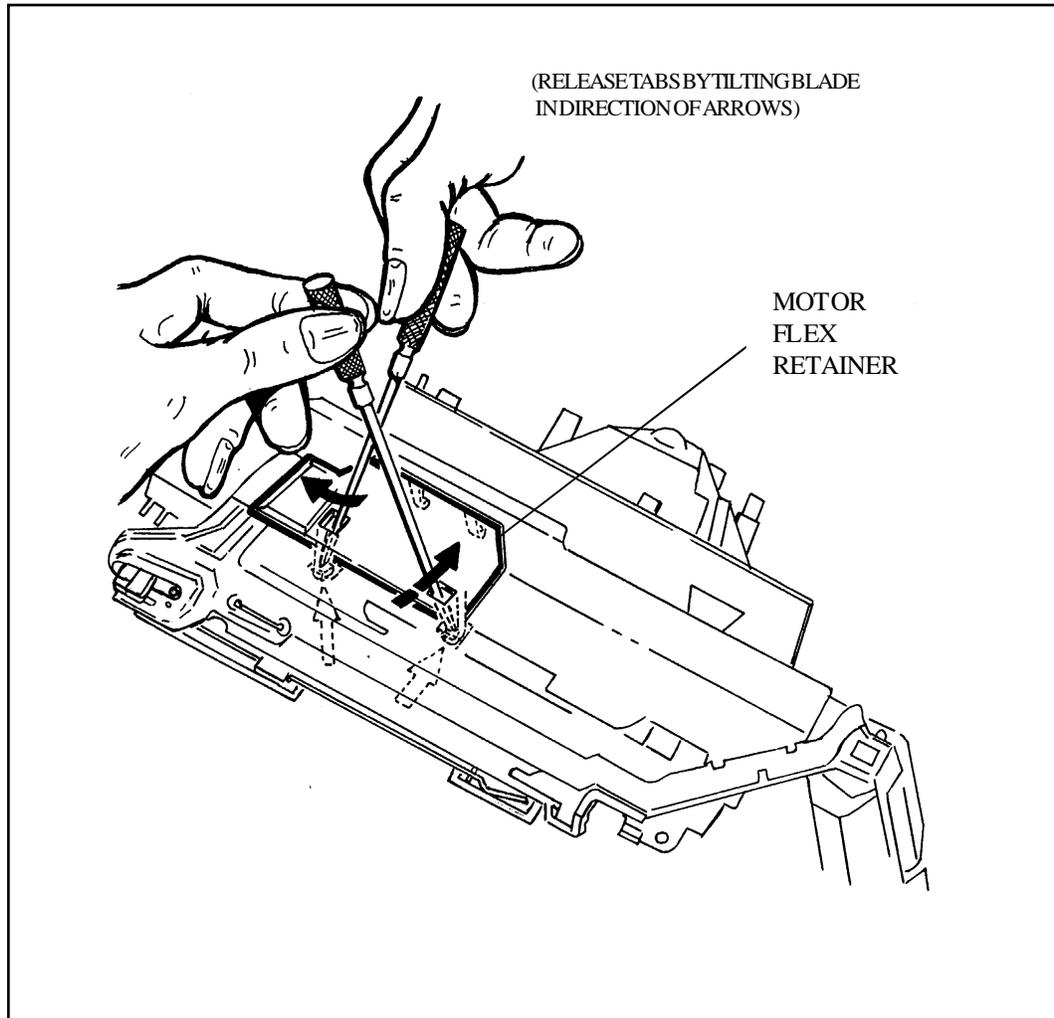

Figure 3-27. Removing Motor Flex Retainer from Gear Drive Cover
- a. Remove the Motor Flex Retainer from the Gear Drive Cover (Figure 3-27) by releasing the two latching fingers: insert a narrow blade into openings **A** and **B** and turn blade in direction shown by arrows.